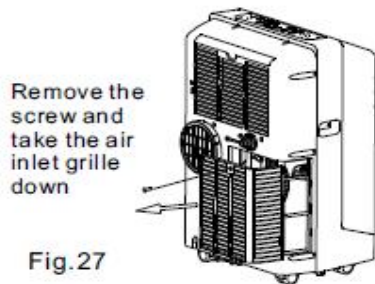

Fig.27
- Remove the lower filter by loosening the screw and taking down the air inlet grille. (Fig.27 and 28)